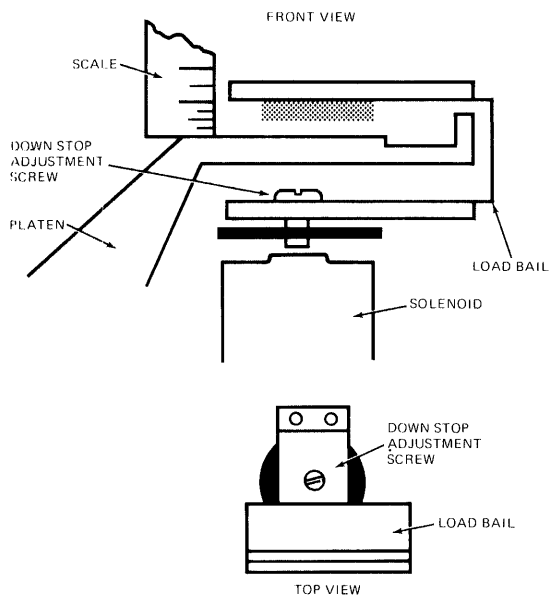

FIGURE 14. HEAD LOAD BAIL ADJUSTMENT
- b. Adjust the down stop screw to obtain  $3/16''$  to  $1/4''$  from the top flat surface of the load bail and the platen. Reference figure 14.